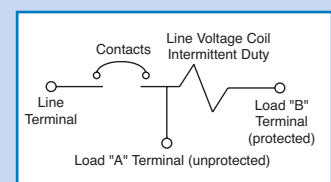

Fig. 6 - SHUNT TRIP
A three terminal device similar to "Series Trip", but with the addition of a third terminal between the contacts and the coil. This circuit is usually used to control two separate loads (A&B) from the same power source, while sensing overload current in only one load (B). It should be noted that overload protection is not provided in the load (A) circuit, and if needed, must be provided by other means. Also, the sum of the current in circuit A & B must not exceed the contact rating of the device. (Fig. 6)